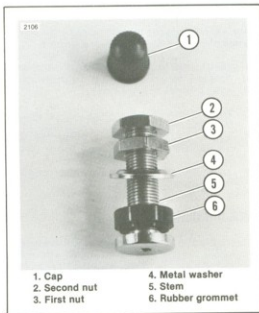

Figure 2-36. Tubeless Tire Valve Stem
1. See Figure 2-36. On tubeless wheels, damaged or leaking stems must be replaced. Place rubber grommet on valve stem with shoulder in recess of the valve stem head.